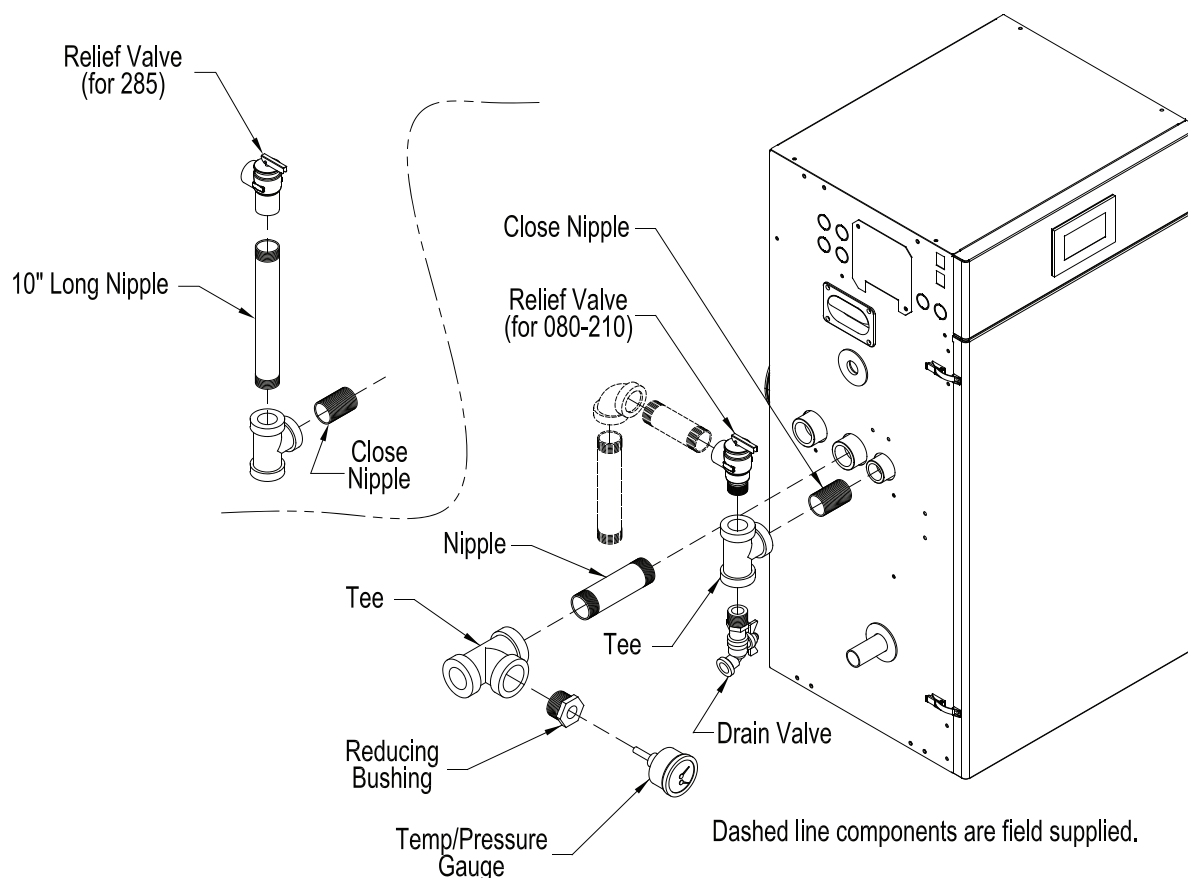

Figure 20: Factory Supplied Piping and Trim Installation
Alpine boilers have factory supplied Miscellaneous Part Carton (P/N 102942-01 – ALP080B through ALP210B; 102942-02 or 103676-01 – ALP285B), which includes supply piping components, gas piping components, Temperature & Pressure Gauge, Pressure Relief Valve and Drain Valve. See Figure 20 "Factory Supplied Piping and Trim Installation". Install these components prior to connecting boiler to system piping as follows:
- 1. Safety Relief Valve (Required)** - The relief valve is packaged loose with boiler and must be installed in the location shown in Figure 20 "Factory Supplied Piping and Trim Installation". The relief valve must be installed with spindle in vertical position. Installation of the relief valve must comply with ASME Boiler and Pressure Vessel Code, Section IV. The standard factory shipped relief valve is rated for 30 PSI maximum working pressure for ALP080B through ALP285B. Optional 50 PSI, 80 PSI and 100 PSI maximum working pressure rated relief valves are available. If the valve is to be replaced, the replacement valve must have a relief capacity equal or exceeding the boiler DOE Heating Capacity (models ALP080B through ALP285B). Pipe the relief valve discharge to a location where hot water or steam will not create hazard or property damage if the valve opens. The end of the discharge pipe must terminate in an unthreaded pipe. If the relief valve is not piped to a drain, it must terminate at least 6" above the floor. Do not run relief valve discharge piping through an area prone to freezing. The termination of discharge piping must be in an area where it will not become plugged by debris.
10. Drain Valve (Required) – Drain valve is packaged loose with boiler and must be installed in the location shown in Figure 20 “Factory Supplied Piping and Trim Installation” of the Installation, Operating and Service Instructions.